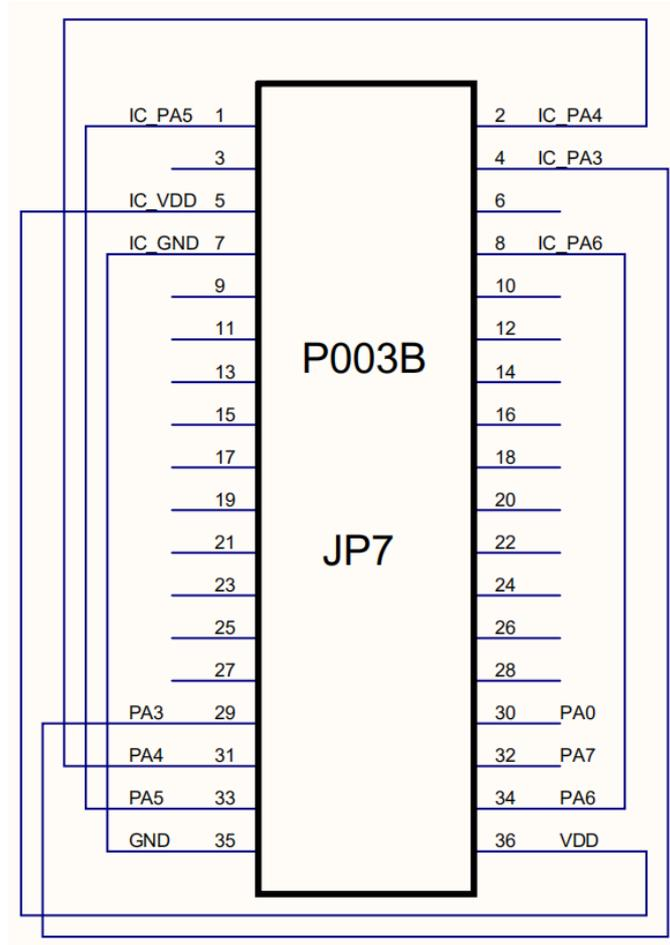

Fig. 29: schematic diagram of PMS160B-S08B Jumper7 when using P-003B
(2). As shown in figure 29, it is the Jumper7 connection method.